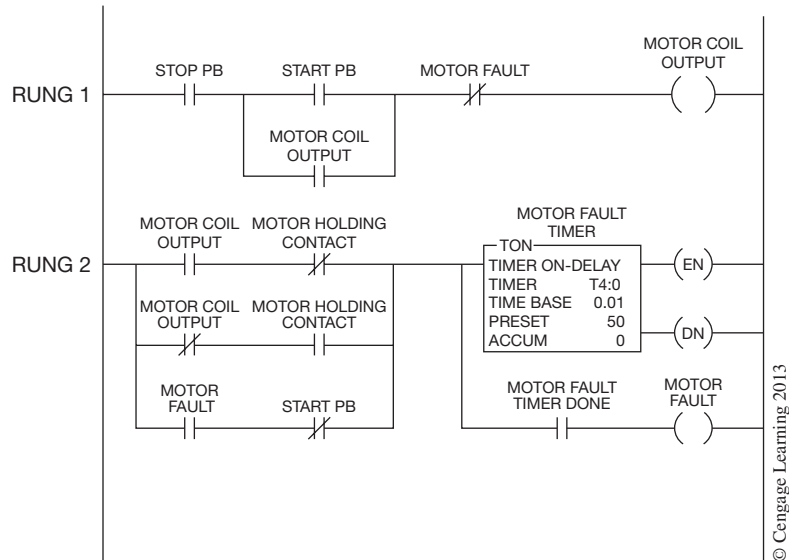

Figure 9–22 Motor Fault Logic
Step 4. When one is writing the logic to control the motor coil, an N.C. contact should be inserted in series with the motor coil output. This N.C. contact should have the same PLC address as the “Motor Fault” memory bit described above. Figure 9–22, Rung 1 shows an example of this logic. Now, whenever the motor starter fails to pull in or drop out for any reason, the condition is detected and the motor coil output is turned *OFF* or deenergized until the motor is again restarted.